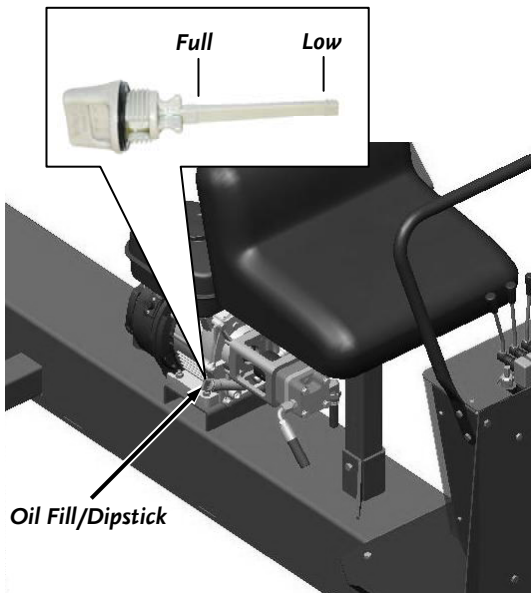

Figure 2
1. Place the machine on a level surface, remove the Oil Fill/Dipstick (**Figure 2**) and clean the end of it with a rag.